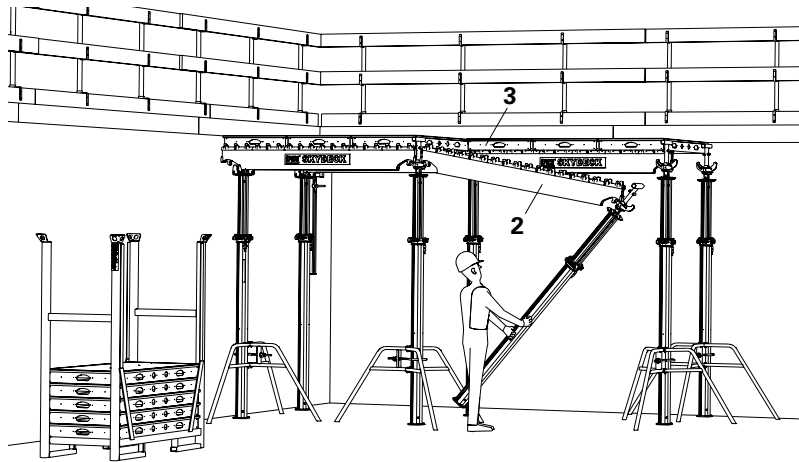
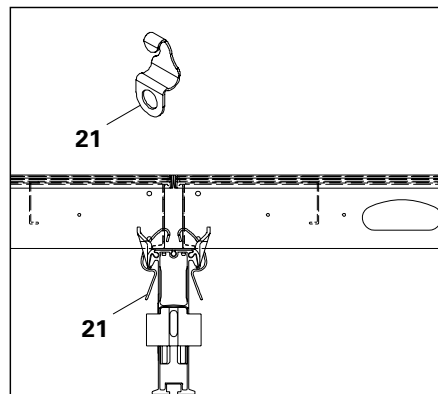

Fig. A4.15
Fig. A4.16
- bracing (Fig. A4.16)
1. Attach Main Beam SLT 225 (2) to the Drophead.
2. Connect prop with Drophead SFK in the raised main beam. (Fig. A4.15)
4. Insert panels (3).